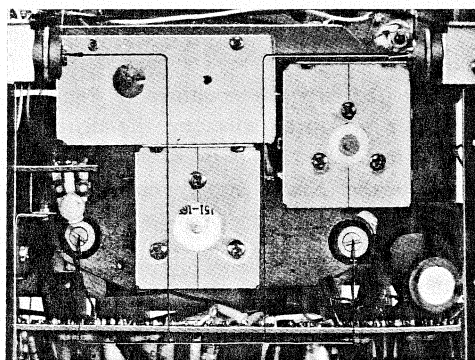

Fig. 2-11
2. Remove the four screws shown in Fig. 2-11.